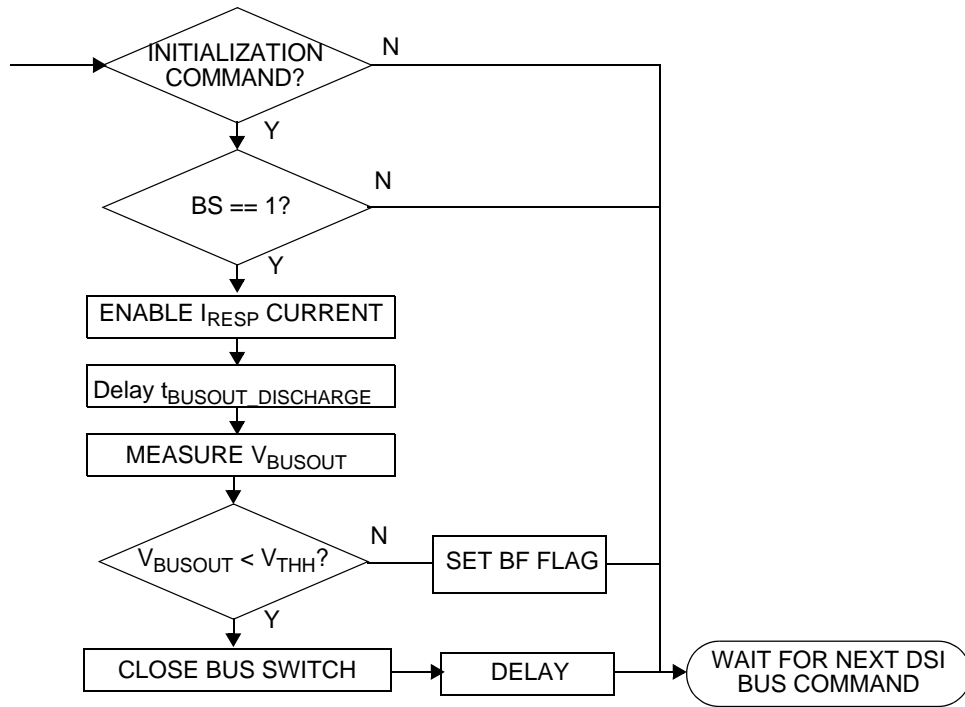

Figure 22. Initialization Sequence
Figure 22 illustrates the sequence of operations performed following negation of internal power-on reset (POR) and execution of a DSI Initialization command. The BUSOUT node is tested for a bus short to high voltage condition, and the bus fault (BF) flag is set if an error condition is detected. If no bus fault condition is detected and the BS bit is set in the Initialization command message, the bus switch will be closed. The device implements a blanking time ( $t_{DSI\_BLANK\_INIT}$ ) to allow for the bus voltage to recover following closure of the bus switch.